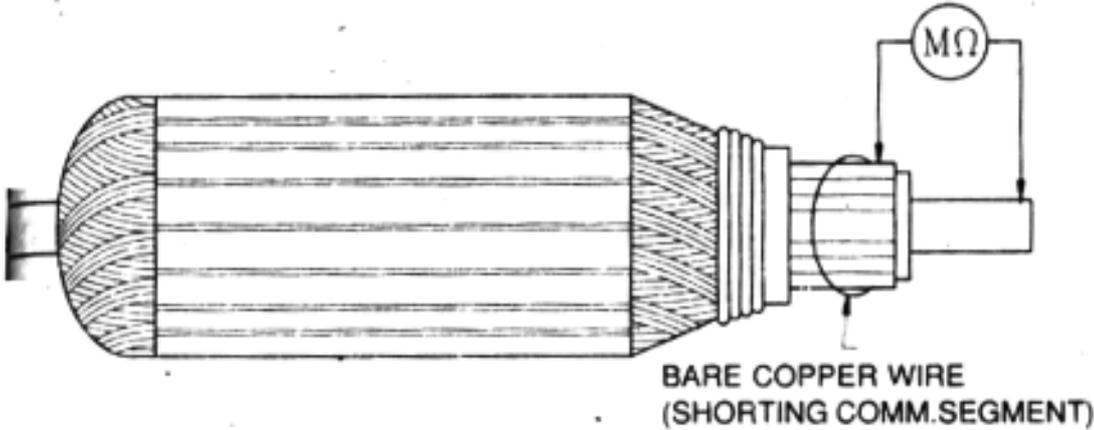

Fig. 6.14
**6.4 INSULATION RESISTANCE TEST :** With a bar copper wire, short all the commutator segments, as shown in Fig. 6.14.